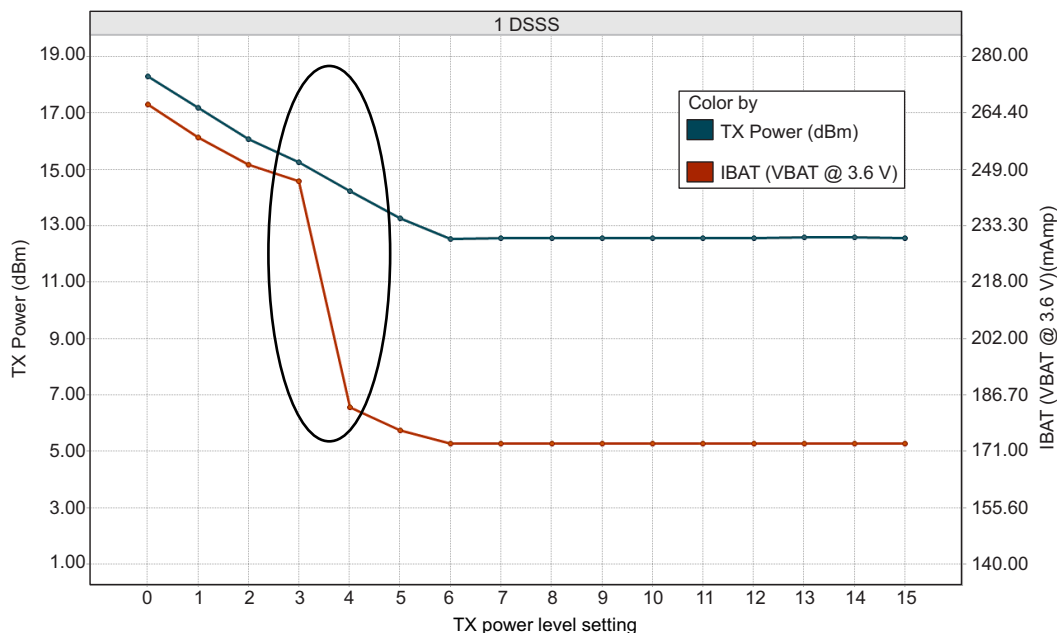
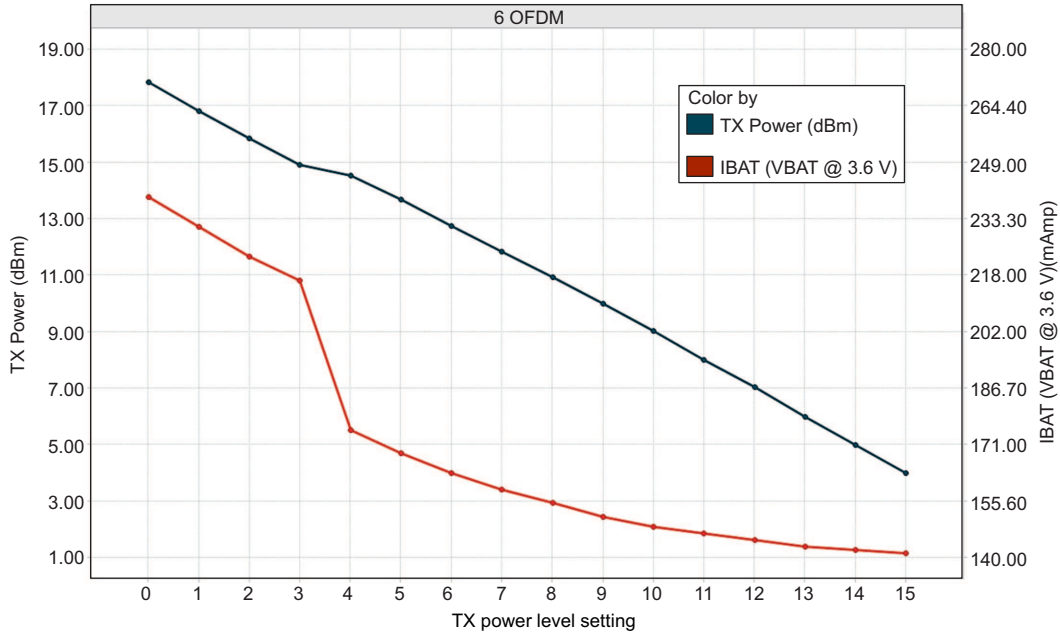
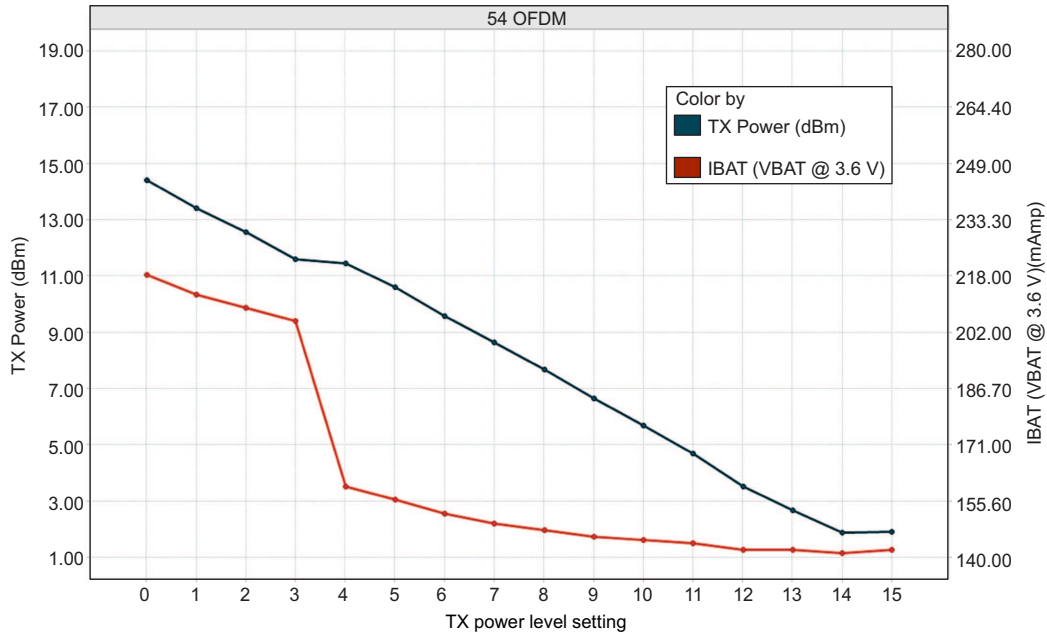

Figure 5-1. TX Power and IBAT vs TX Power Level Settings (1 DSSS)
Figure 5-2. TX Power and IBAT vs TX Power Level Settings (6 OFDM)
Figure 5-3. TX Power and IBAT vs TX Power Level Settings (54 OFDM)
- (1) TX power level = 0 implies maximum power (see Figure 5-1, Figure 5-2, and Figure 5-3). TX power level = 4 implies output power backed off approximately 4 dB.
- (2) The CC3135 system is a constant power-source system. The active current numbers scale based on the V_{BAT} voltage supplied.
- (3) The RX current is measured with a 1-Mbps throughput rate.
- (4) DTIM = 1
- (5) The complete calibration can take up to 17 mJ of energy from the battery over a time of 24 ms. In default mode, calibration is performed sparingly, and typically occurs when re-enabling the NWP and when the temperature has changed by more than 20°C . There are two additional calibration modes that may be used to reduced or completely eliminate the calibration event. For further details, see CC31XX SimpleLink™ Wi-Fi® and IoT Network Processor Programmer's Guide.
- (5) The complete calibration can take up to 17 mJ of energy from the battery over a time of 24 ms. In default mode, calibration is performed sparingly, and typically occurs when re-enabling the NWP and when the temperature has changed by more than 20°C . There are two additional calibration modes that may be used to reduced or completely eliminate the calibration event. For further details, see CC31XX, CC32XX SimpleLink™ Wi-Fi® and IoT Network Processor Programmer's Guide.
Figure 5-1, Figure 5-2, and Figure 5-3 show TX power and IBAT versus TX power level settings for the CC3135 device at modulations of 1 DSSS, 6 OFDM, and 54 OFDM, respectively.
In Figure 5-1, the area enclosed in the circle represents a significant reduction in current during transition from TX power level 3 to level 4. In the case of lower range requirements (14-dBm output power), TI recommends using TX power level 4 to reduce the current.